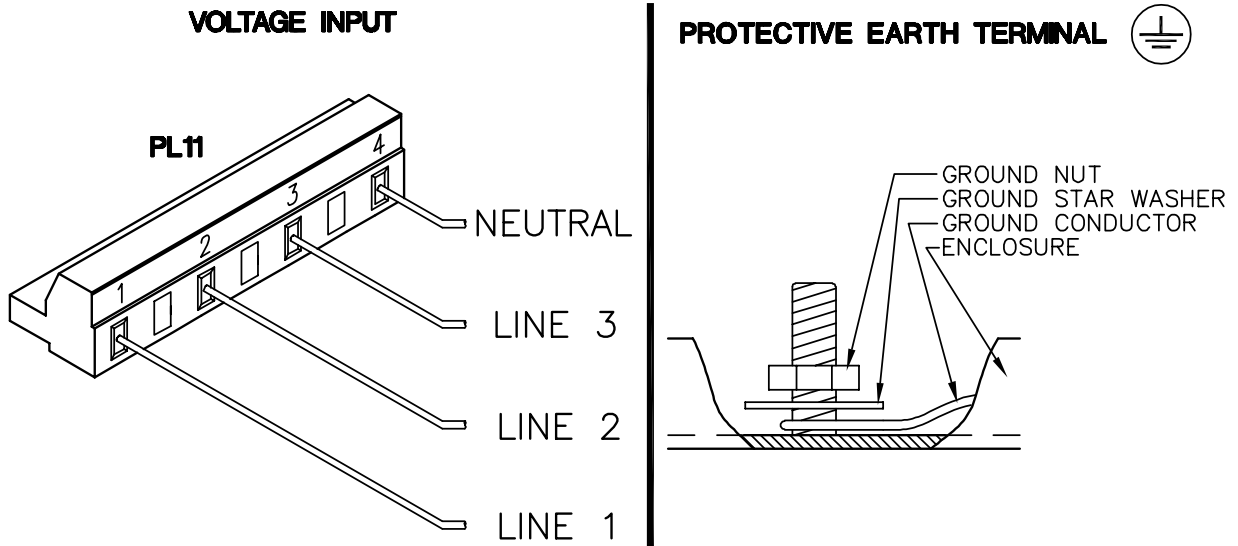

FIGURE 1
6. Connect voltage leads to the four position connector PL 11 as shown in Figure 1. Label each set of CT leads with the load/tenant ID. Connect single load meter CTs to PL4 (PL5 not used). Two load meters use PL4 and PL5. See Figure two for CT connections and polarity. Use Figures 5, 6, 7 and 8 for load connections.